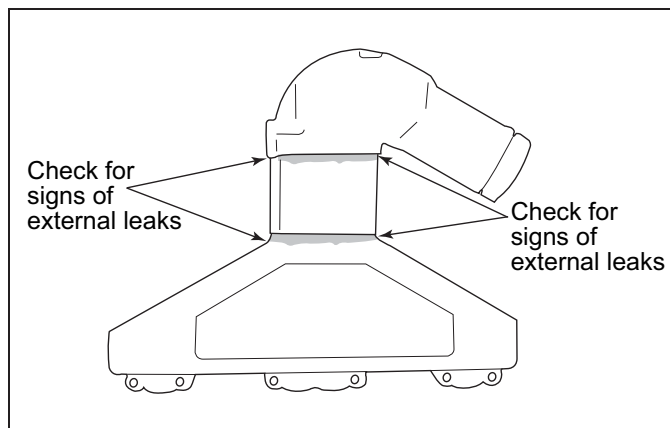

Figure 5-2 Water Leaks
- Cooling system for leaks. If equipped with fresh-water cooling, check coolant level in recovery bottle. Check for signs of water leaks at the exhaust manifolds, risers and elbows (Figure 5-2). If the water is leaking externally, it is possible that the water is also leaking internally. This could result in internal engine damage. It is very important to service these maintenance items as soon as a problem is indicated. After performing the initial safety checks, proceed as follows to start the engine: